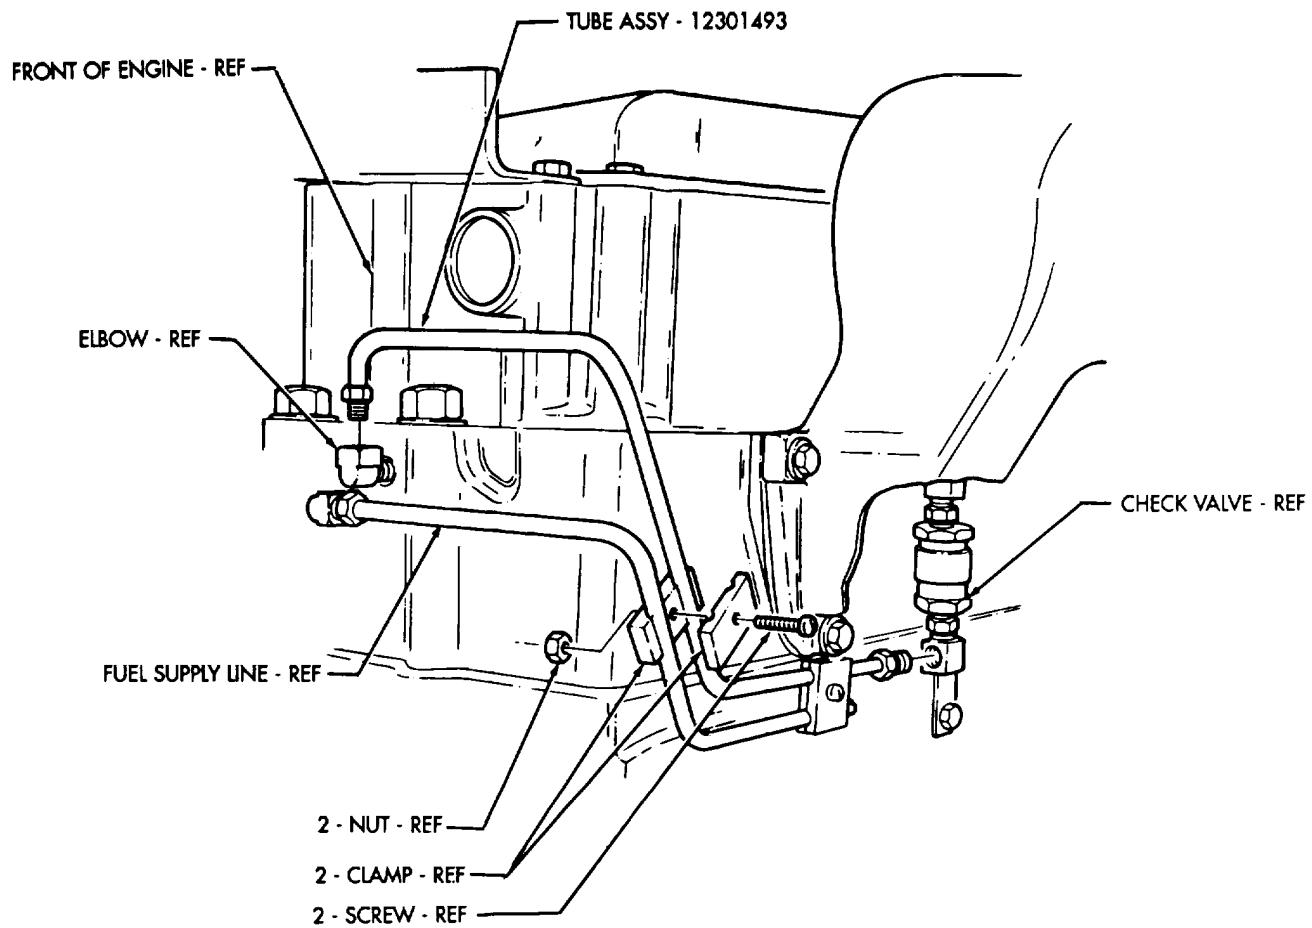

FIGURE 15
- (4) Connect 12301493 tube assembly to elbow on front of engine and check valve as shown in figure 15.
- (5) Install two clamps on tube assembly and fuel supply line with two screws and nuts as shown in figure 15.